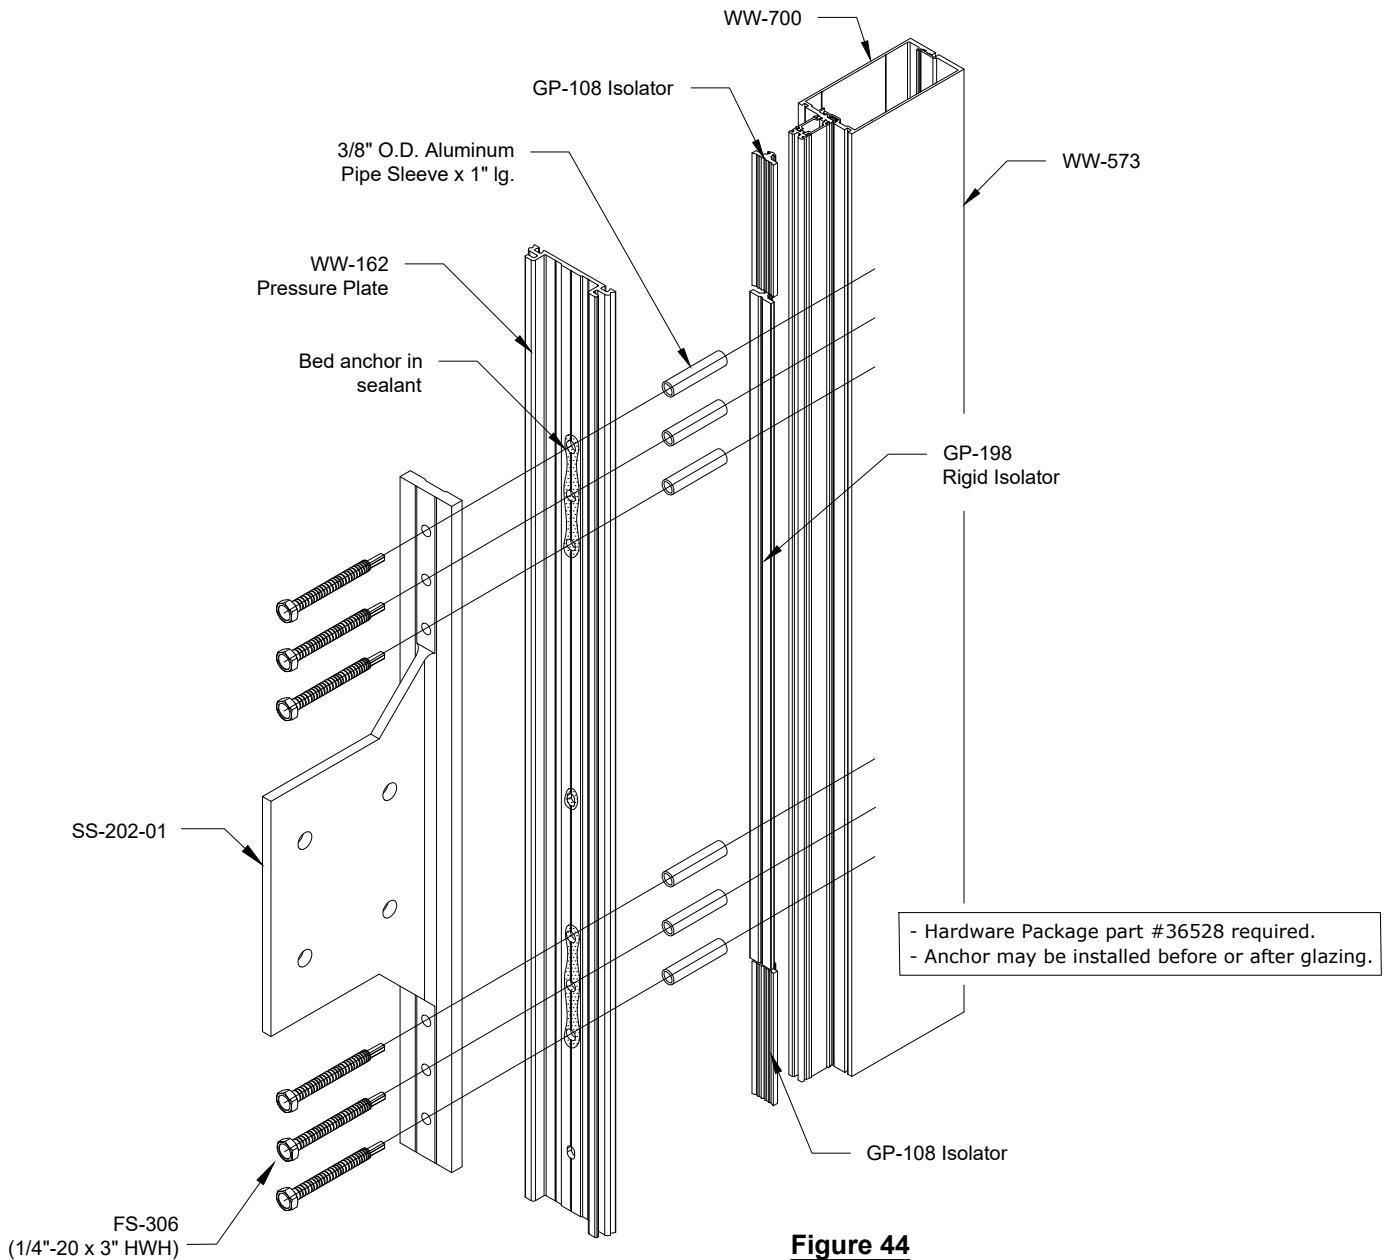

Figure 44
- 4) Use the sunshade anchor to mark the pressure plate. Match drill the WW-162 pressure plate using "H" (.266") drill bit. Drill the tongue of the mullion using a $\frac{13}{32}$ " drill bit and insert a $\frac{3}{8}$ " x 1" long pipe sleeve inside of the thermal struts. The Bi Flex fastener will be used to drill into the tubular section of the mullion. See FIGURE 44.